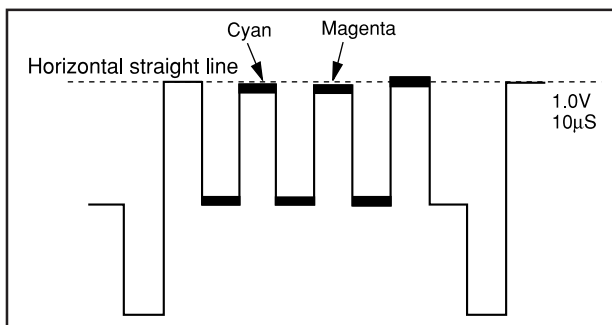

Fig. 3-4
2. Use the volume keys of the jig remote controller and adjust the top and bottom excursions of waveform to be linear as shown in the Fig. 3-4.